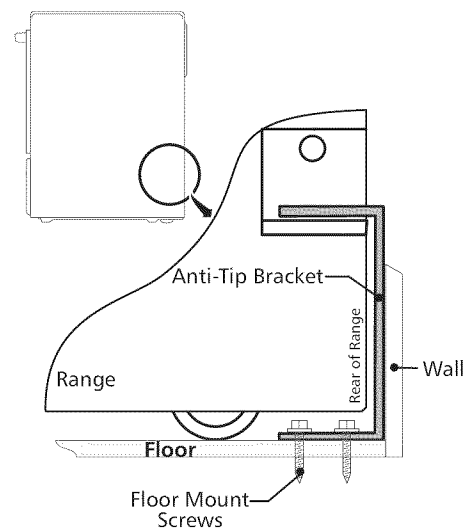

Figure 18
4. Remove template and place bracket on floor. Line up holes in bracket with marks on floor and attach with 4 screws provided. Bracket must be secured to solid floor (Figure 18). If attaching to concrete floor, first drill 3/16" (0,48 cm) dia. pilot holes using masonry drill bit.
6. Slide range into place making sure structure of the range is trapped by the anti-tip bracket (Figure 18). Lower the range by adjusting the 4 levelling legs until the underside of the cooktop is sitting level on the countertop. Refer to "Levelling the Range" section.